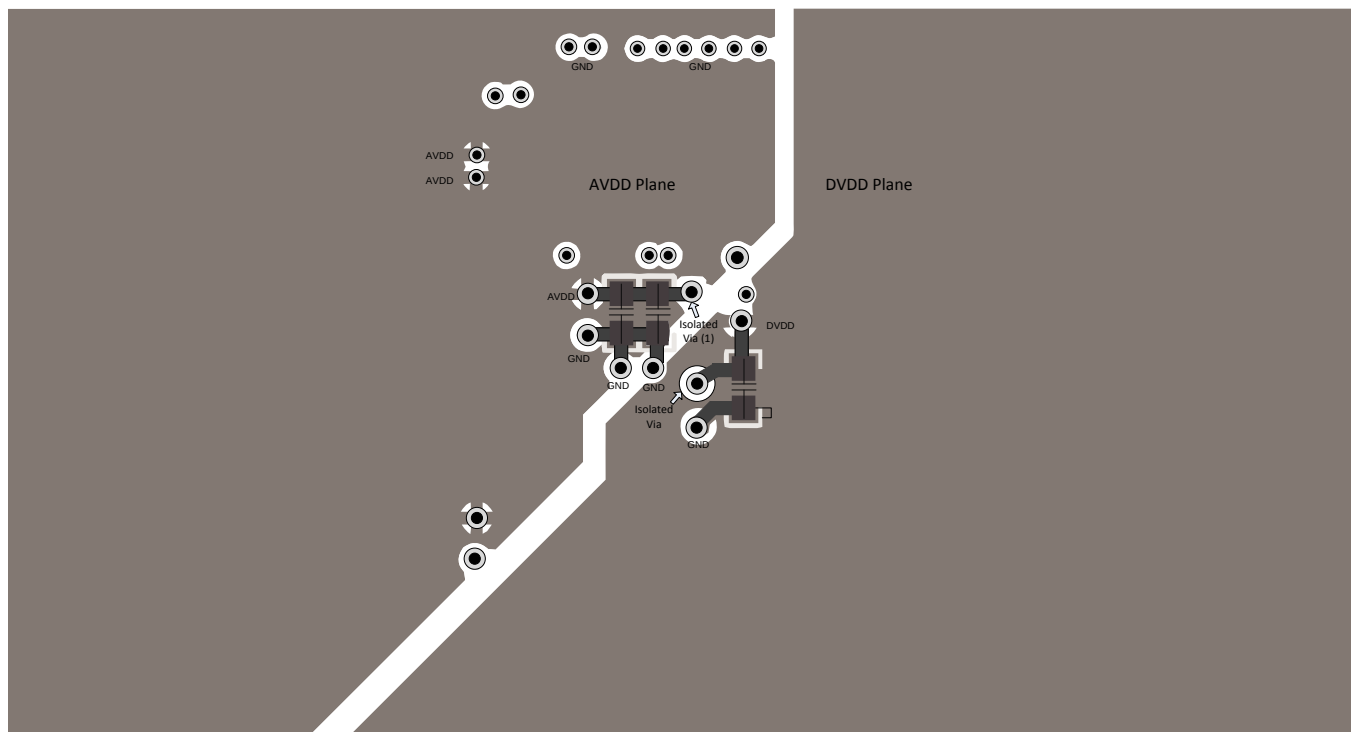

图 91. Bottom Layer Layout
- Power sources to the ADS8598S must be clean and well-bypassed. As a result of dynamic currents during conversion, each AVDD must have a decoupling capacitor to keep the supply voltage stable. Use wide traces or a dedicated analog supply plane to minimize trace inductance and reduce glitches. Using a 1-μF, X7R-grade, 0603-size ceramic capacitor is recommended in close proximity to each analog (AVDD) supply pin. Bypass capacitors for AVDD pins 1 and 48 are located on the top layer; see 图 90. AVDD supply pins 37 and 38 are connected to bypass capacitors in the bottom layer using an isolated via (1); see 图 91. A separate via (2) is used to connect the bypass capacitor to the AVDD plane.
- For decoupling the digital (DVDD) supply pin, a 1-μF, X7R-grade, 0603-size ceramic capacitor is recommended. The DVDD bypass capacitor is located in the bottom layer; see 图 91.